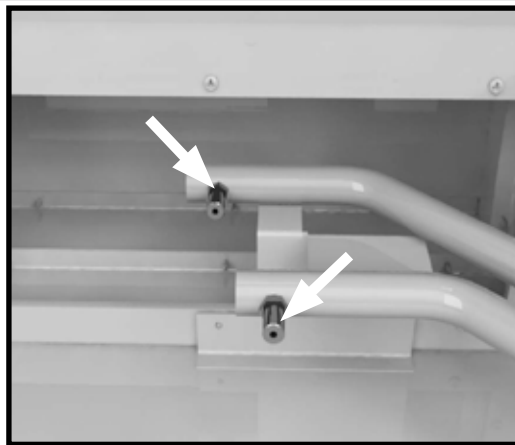

Figure 23: Remove NG orifices.
2. Using a 1/2" wrench, undo both natural gas burner orifices (marked "ND").(Figure 23)